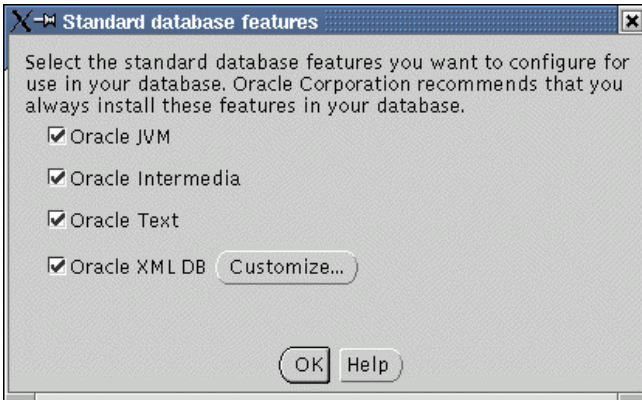

Figure 82. dbca standard database features
13. A popup window for Standard database features is displayed (Figure 82). Again in our example, we deselected all standard features. Click **OK** to continue.